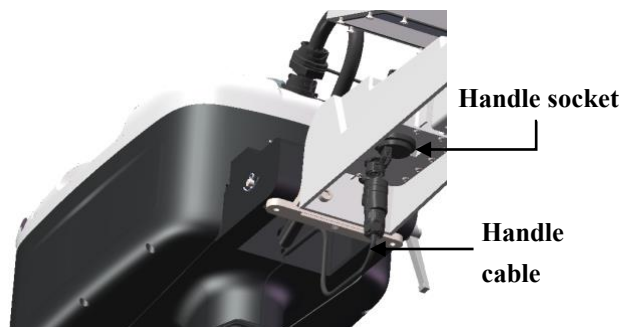

Figure2-8
2. Connect the **handle cable** to the **handle socket** under the outboard handle, align the positioning groove of the socket, rotate clockwise, and lock the cable. Refer to figure 2-8.